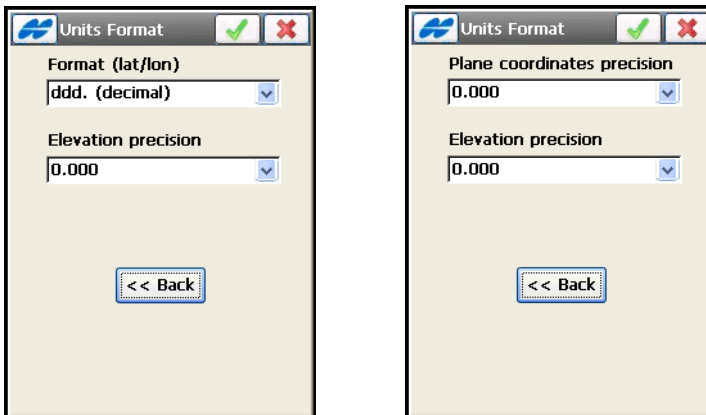

Figure 4-21. Units Format
- **Next** – opens the *Units Format* screen (see Figure 4-21 on page 4-20).
**On the Units Format** screen (Figure 4-21 on page 4-20), select from the drop-down list the format for coordinates you want to represent in the data exported.